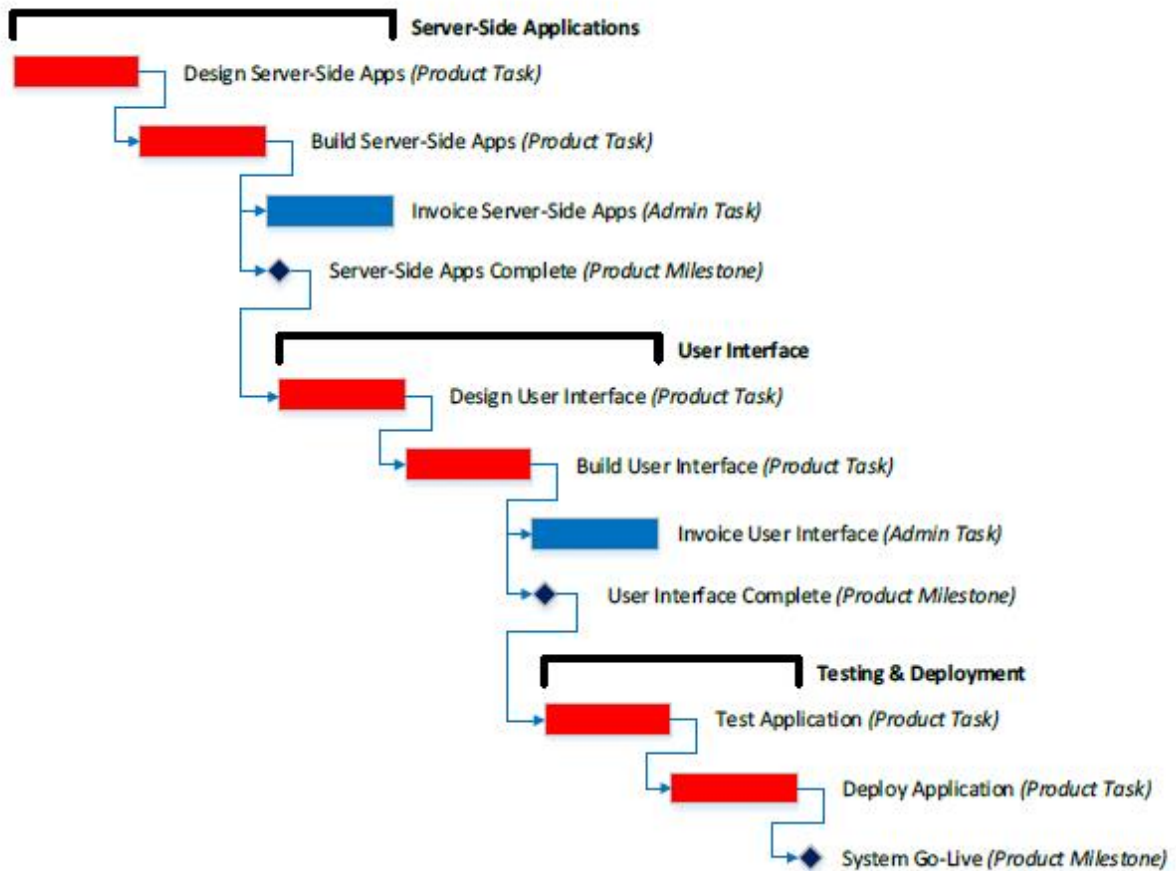

Figure 2 – Continuous Task Relationships Among Product Development Activities
4. Tasks associated with the creation of the project's product or solution should be linked to preserve the continuity of the schedule's overall network logic. See Figure 2 - Continuous Task Relationships among Product Development Activities.